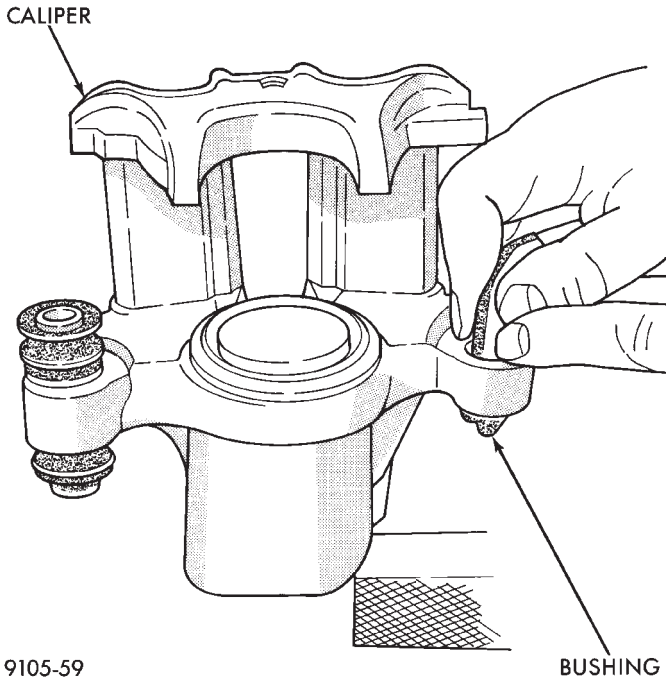

Fig. 178 Installing Caliper Guide Pin Bushing
(2) Insert the folded bushing into the caliper mounting boss using your fingers (Fig. 178).